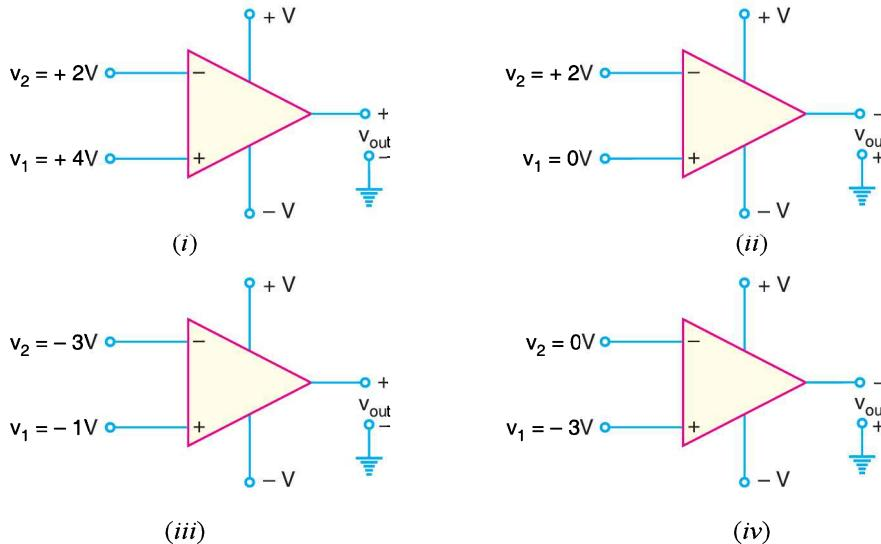

Fig. 25.41
- In Fig. 25.41(i), $v_1 = +4V$ and $v_2 = +2V$ so that $v_{in} = v_1 - v_2 = (+4V) - (+2V) = 2V$. Since v_{in} is *positive*, the OP-amp output voltage will be *positive*.
- In Fig. 25.41 (ii), $v_1 = 0V$ and $v_2 = +2V$ so that $v_{in} = v_1 - v_2 = (0V) - (+2V) = -2V$. Since v_{in} is *negative*, the OP-amp output voltage will be *negative*.
- In Fig. 25.41 (iii), $v_1 = -1V$ and $v_2 = -3V$ so that $v_{in} = v_1 - v_2 = (-1V) - (-3V) = 2V$. Clearly, the OP-amp output voltage will be *positive*.
- In Fig. 25.41 (iv), $v_1 = -3V$ and $v_2 = 0V$ so that $v_{in} = v_1 - v_2 = (-3V) - (0V) = -3V$. Therefore, the OP-amp output voltage will be *negative*.